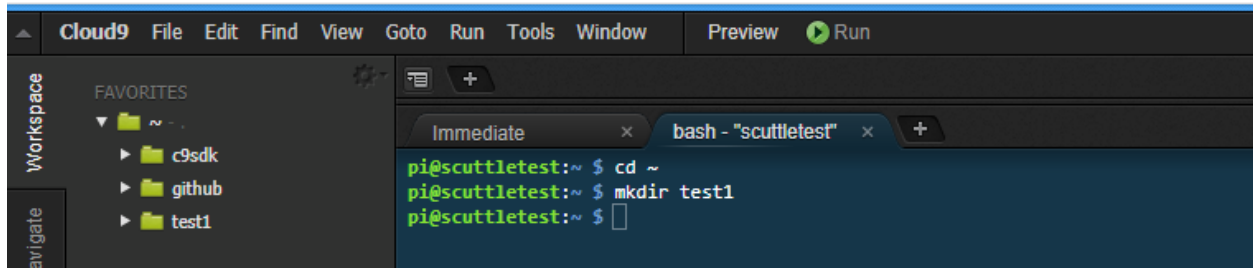

Figure 6
- ii. You should notice that the folder you just created appeared in the workspace under the home directory as shown in Figure 6 below: